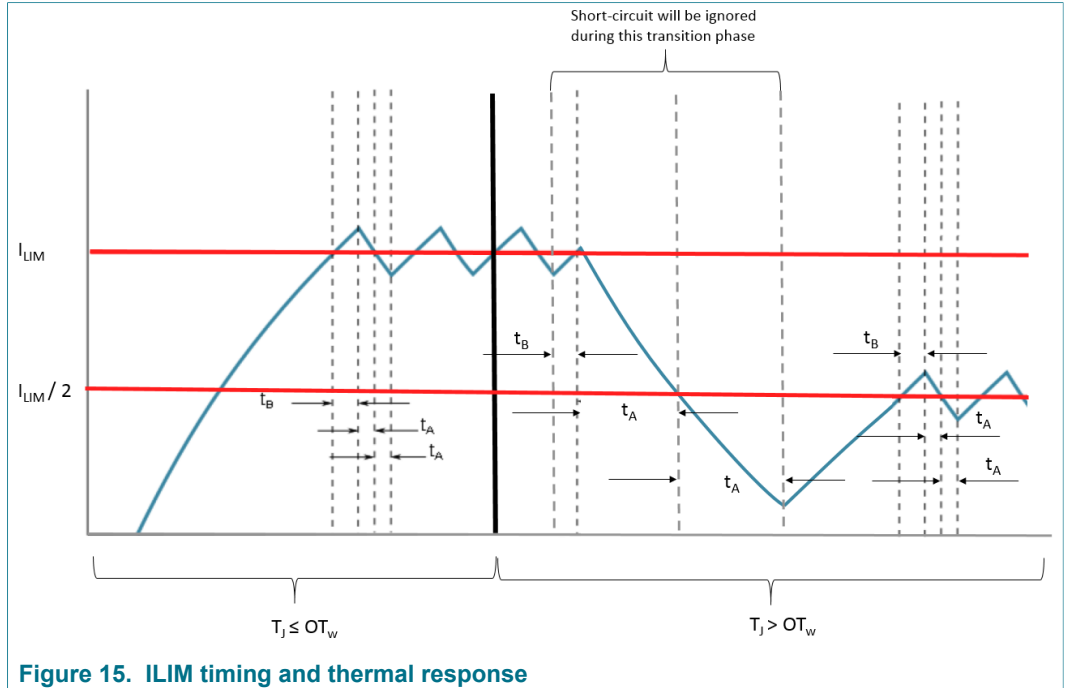

Figure 15. ILIM timing and thermal response
After $2 * t_A$, the control of the gates releases, restoring the output to the configuration set by the inputs. If the average output FET temperature exceeds the die temperature warning threshold (OT_W), the current limit threshold is set to 50 % of its original value selected via SPI and output keeps switching with t_B set at 32 μ s with t_A as explained above and in Figure 15. The temperature dependent blanking time does not change during the blanking interval. Input control does not cause the output to switch ON while current is greater than I_{LIM} . Input control commanding the output to switch OFF immediately switches OFF the output and resets the I_{LIM} circuit.
*Short-circuit is ignored when $T_J > OT_W$ for an interval of $t_B + 2*t_A$ while current limit threshold transitions to 50 % of its set value as shown in Figure 15. Although, short-circuit is ignored for this small time interval, overtemperature protection will still be able to protect the FETs in this time interval if excessive heating happens due to a short-circuit event or high temperature transients.*